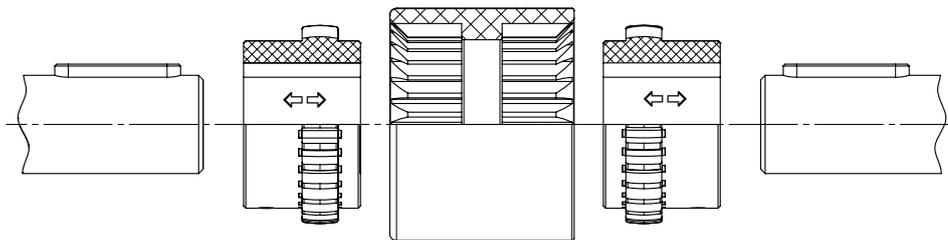

Figure 4-6 - SITEX® Nylex C execution coupling - mounting
- Move the motor and the driven equipment up to get the dimension E (see FIGURE 4-6 e TABLE 4.3)